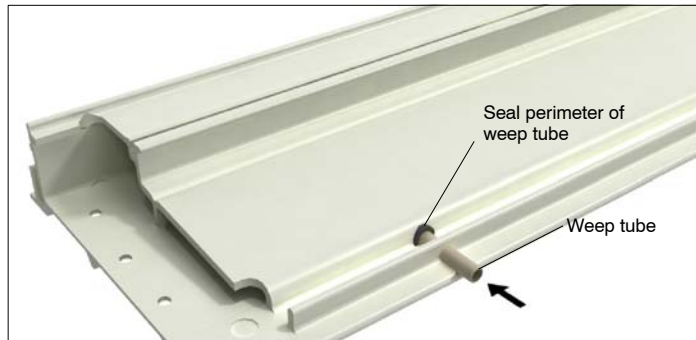

Figure 3
3. Insert the new weep tube into the new weep tube opening so that the end of the tube is flush with the exterior edge of the sill. Seal around the tube at the sill entry point with a high quality sealant. See figure 3.